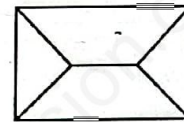

Figure 3
20. The roof plan represented by Figure 3 below is that of: